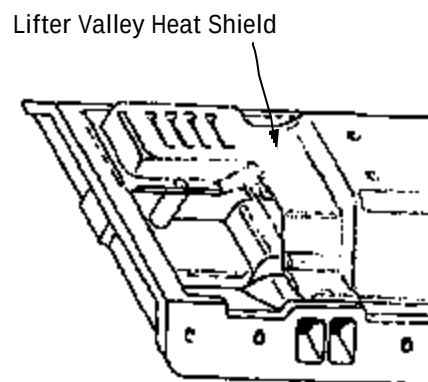

Figure 3 - Underside of Manifold
3. Remove the lifter valley heat shield from your stock manifold and install it on your new Edelbrock manifold using the supplied drive screws (See Fig. 3). *NOTE: This step must be performed!*